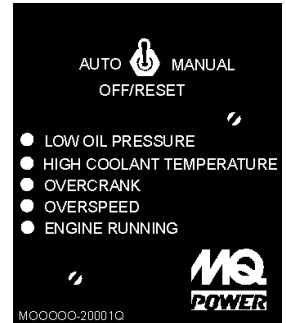

Figure 10. MPEC Module
14. **MPEC (Microprocessor Engine Control Module)** - (MPEC) has a vertical row of status LED's (Figure 10), that when lit, indicates an engine malfunction (fault) has been detected. When a fault has been detected by the MPEC as a major fault, it will shut down the generator.